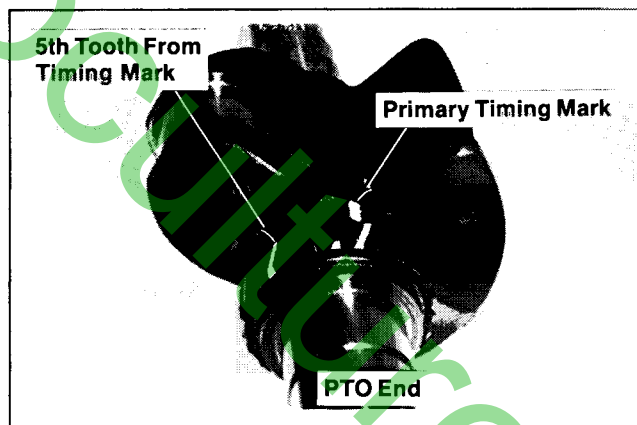

Figure 12-18. Marking Tooth On Crankshaft Gear.
Crankshaft – Locate the primary timing mark on crankshaft. While looking at the PTO end of crankshaft, start with the tooth directly below timing mark and count **five (5)** teeth in a **counterclockwise** direction. Mark the fifth tooth. Refer to Figure 12-18.